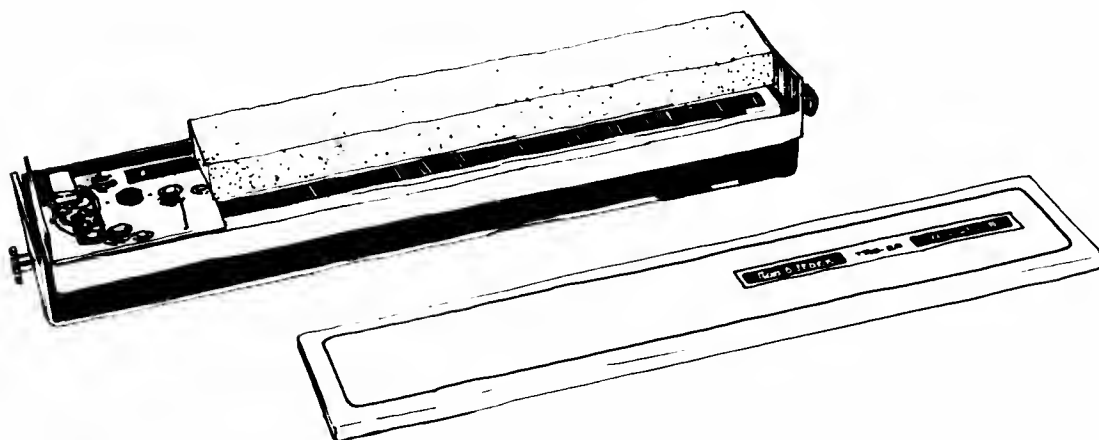

Figure 3. Unpacking the Digitizer
3. Remove the plastic foam from the inside of the Digitizer. The Carriage should then move freely to the left and right. (See Figure 3.)